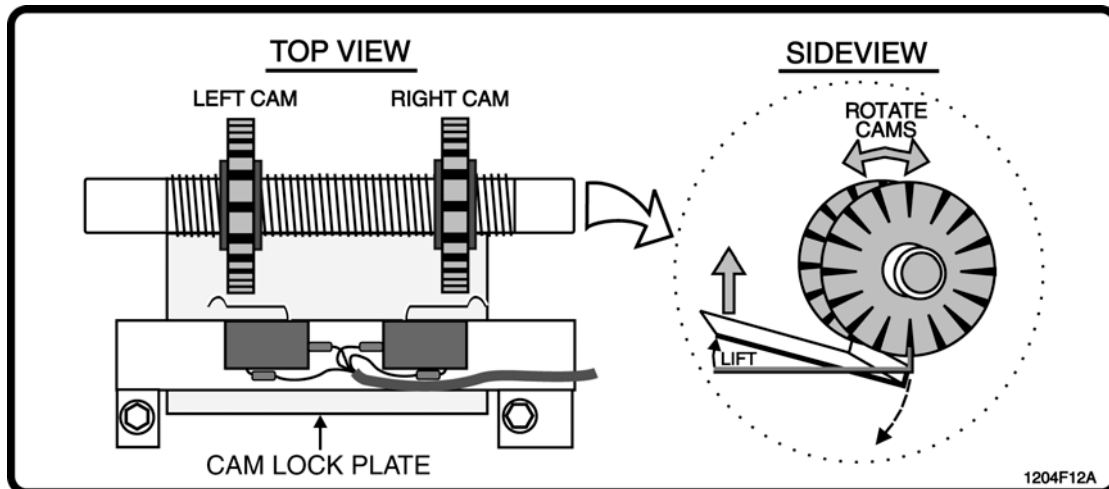

Figure 14. Limit Cam Setting.
- The left limit cam is close to the output shaft. The right limit cam is close to the control box (see Figure 14).